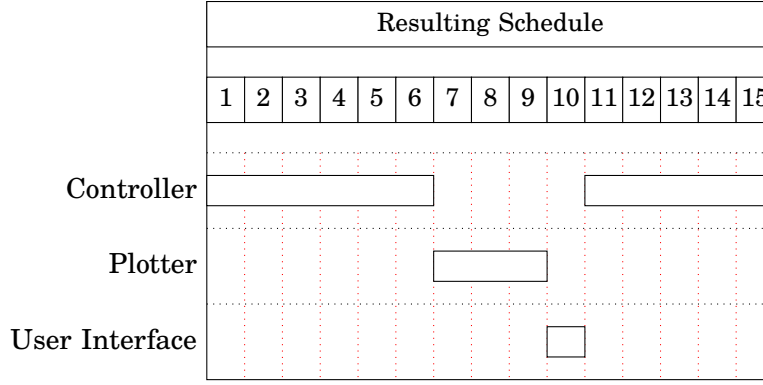

Figure 1 Schedule for the first 15 time units for Problem ??.
- b.** The taskset will not meet the deadlines under this policy. Specifically, either the Plotter or the User Interface will miss their deadline already at the first activation. Figure 1 shows the first 15 time units using such a policy. As can be seen, in the first 10 units, 6 are given to the controller, then the plotter and the user interface have 4 units before the controller gets activated again. However, they should execute for 5 time units before their deadline at time 15. Suppose that the plotter is picked first and the user interface is picked second (as shown in Figure 1). The user interface is preempted at time 10 when the controller is ready to execute again. Since the controller executes until time 16, there is no possibility for the user interface to have the additional time unit it would have needed to complete its work before the deadline. Alternatively, if the user interface is selected first, it is the plotter task which cannot complete before its deadline.